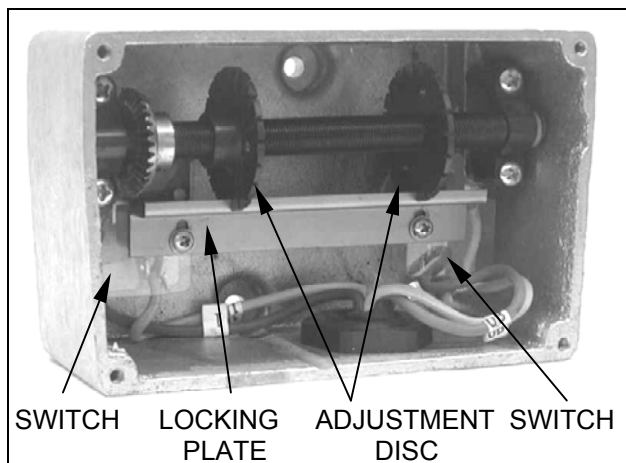

Figure 7-2. Screw-Type Limit Switch Adjustment (Wires Not Shown For Clarity.)
- b) Procedure. Remove load from the hook. To disconnect the geared limit switch refer to Figure 7-2. Remove the limit switch cover then loosen the two (2) screws holding the locking plate in place. Allow the locking plate to slide down and disengage from the adjustment discs. Do not rotate the adjustment discs.
Position the lower block three inches (3") below the point where the block operated limit switch is activated. The geared limit switch shall be reconnected by sliding the locking plate back into position ensuring slots on adjustment discs are fully engaged and tightening locking plate screws to 4 in-lbs. (See Figure 7-2). The geared limit switch must then be tested.
This limit switch has a rotary screw driven by a gear reduction that is coupled to the end of the drum shaft. Adjustment discs operate the contacts of separate switches, one for the hoisting circuit and one for the lowering circuit. The switch assembly must be wired in accordance with the appropriate wiring diagram, which is shipped with the hoist. Instructions for adjusting limit switch are inside cover and are repeated below (see Figure 7-2).